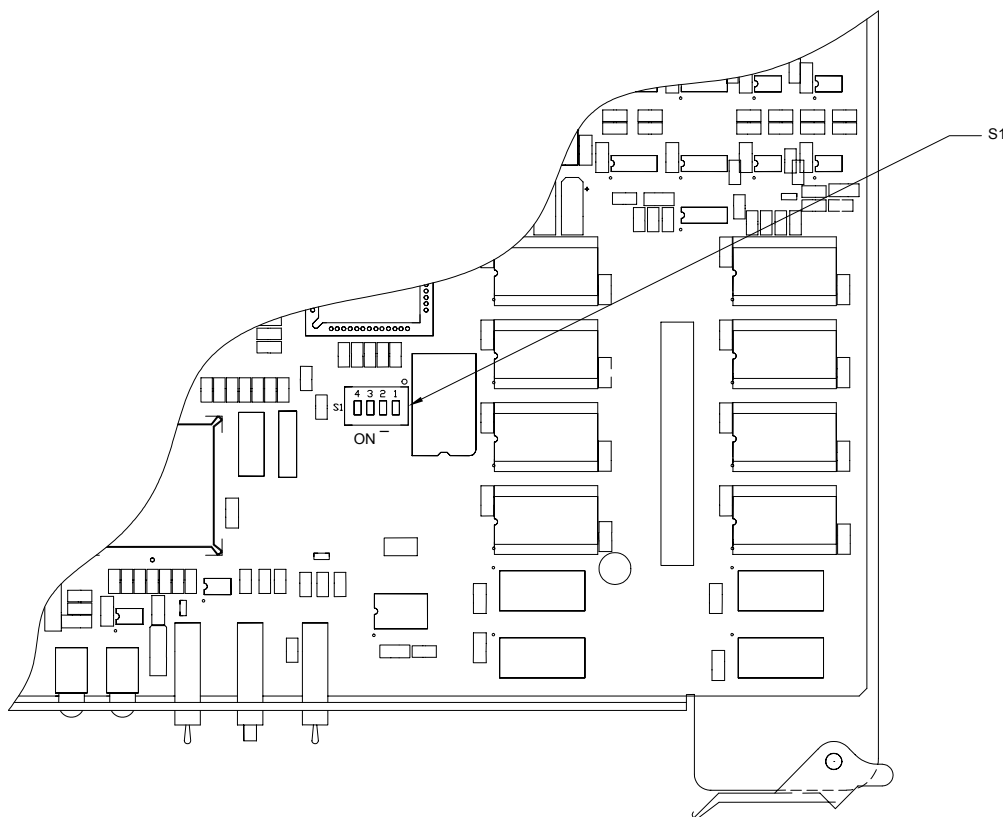

Figure 92. 3500Pro S1 (Operational Mode/Config Bypass/Comm Rate)
2. Remove the 3500Pro from the chassis to allow access to switch S1 (see Figure 92 on page 59). Set switch S1-2 to the ON position in accordance with Table 4 on page 60.